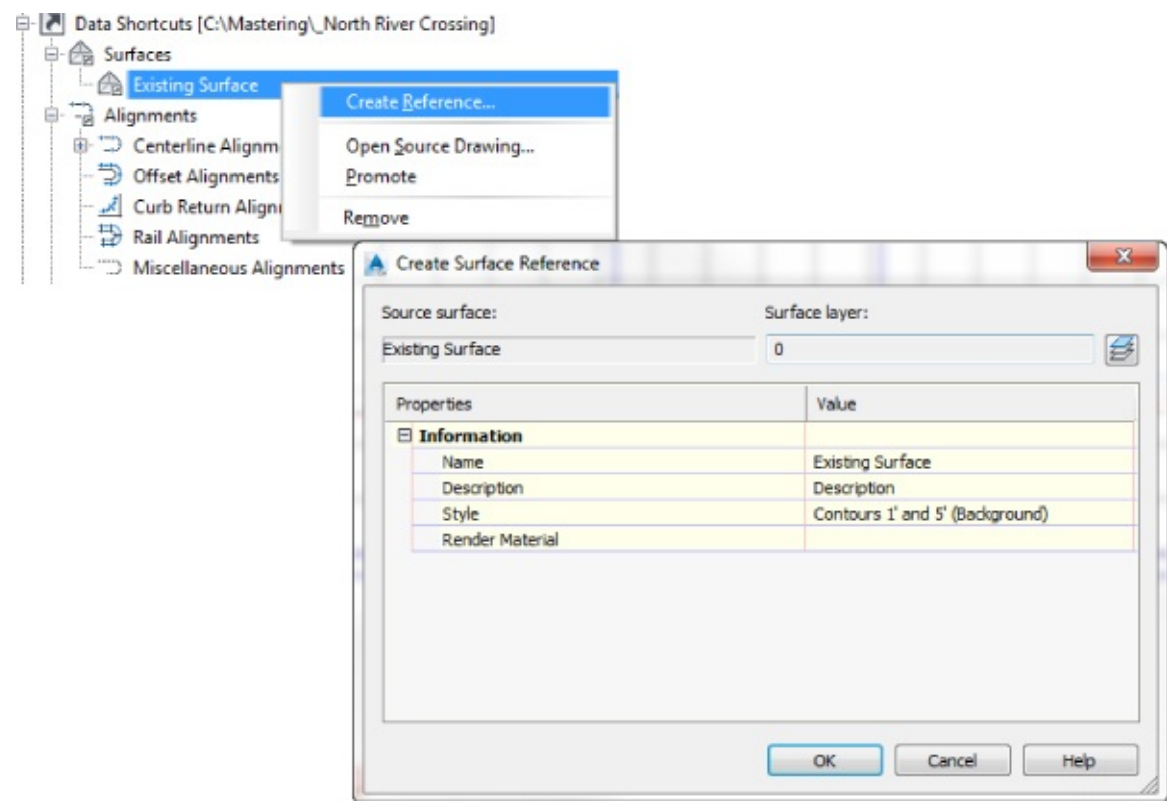

Figure 16.10 The Create Surface Reference dialog
2. Expand the Prospector > Data Shortcuts > Surfaces collection, right-click Existing Surface, and select Create Reference, as shown in Figure 16.10.